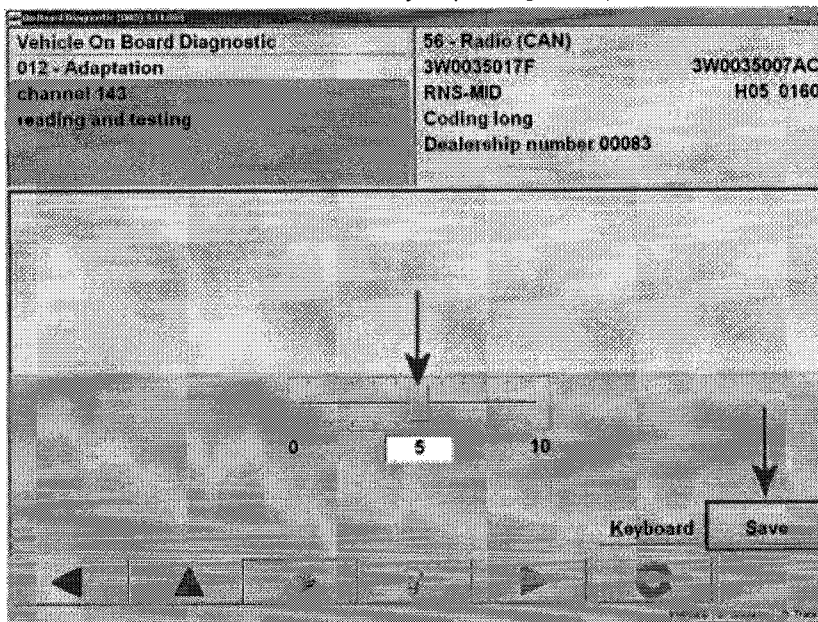

Figure 11
9. Referencing the table below select the appropriate input value for channel number 143 for the tyre to be fitted. Enter that value using the virtual slider, then select *Save*. The example in Figure 11 shows the correct value (5) to be entered into channel 143 to enable the use of 20 " Snow Chain